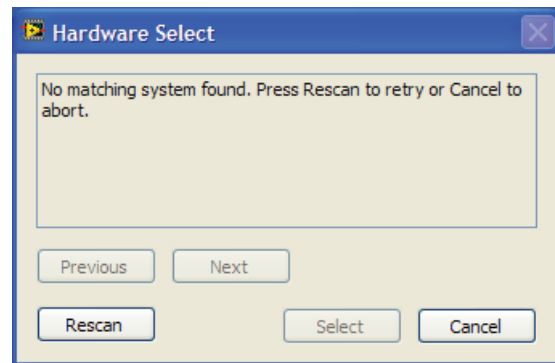

Figure 6. Pop-Up Window Error
2. If the SDP-B board is not connected to the USB port when the software is launched, a connectivity error displays (see Figure 6). Simply connect the evaluation board to the USB port of the PC, wait a few seconds, click **Rescan**, and follow the instructions.